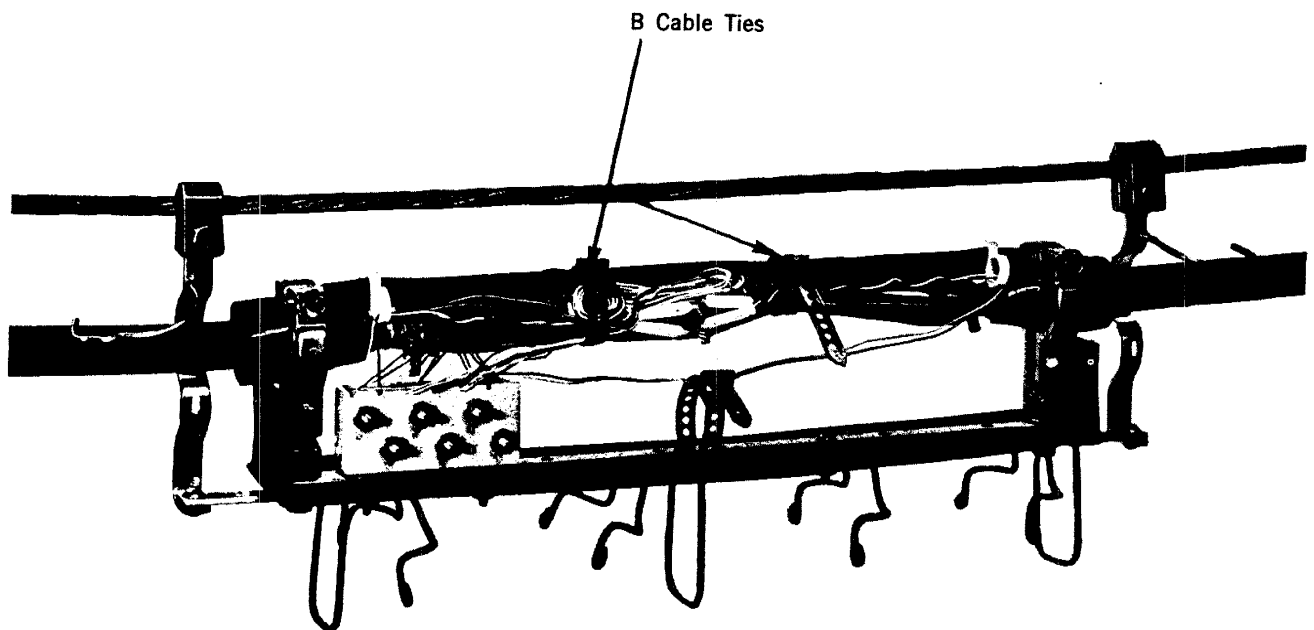

Fig. 8 — Completed Termination
5.05 Fig. 8 illustrates in and out connections for one cable pair completed and held in place with B Cable Ties.